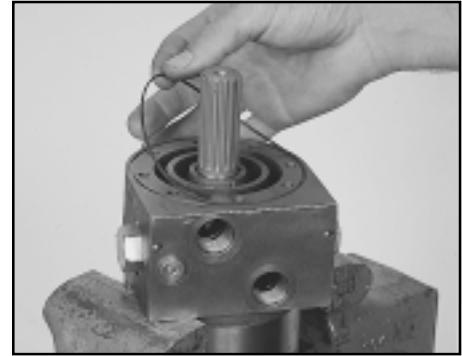

Figure A13
15. Turn motor right side up in the vice and install the square cut seal (3) in the center block seal gland. SEE FIGURE A13.